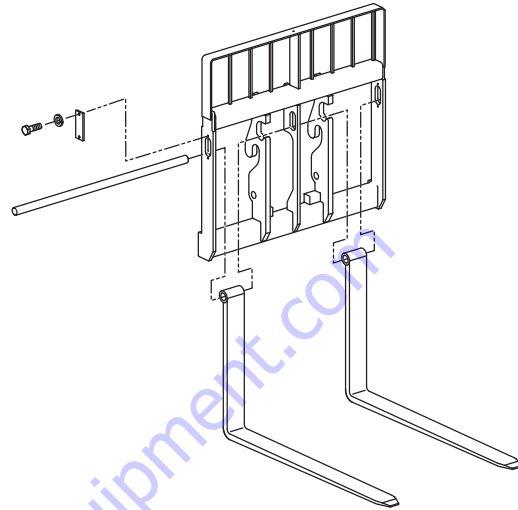

Figure 39 Changing Forks
3. Draw the bar out of the fork eye, being careful that the fork does not fall over, causing possible injury (see *Figure 39*).